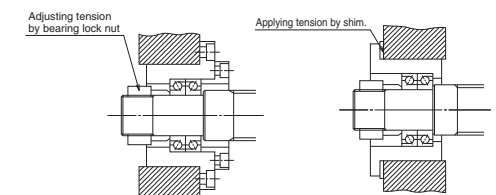

Fig. 1.2 Bearing structure to provide pre-tension
- Set pre-tension. (**Fig. 1.2**)
(3) How to determine specified travel
Fig. 1.2 shows the bearing support structure in such occasions.